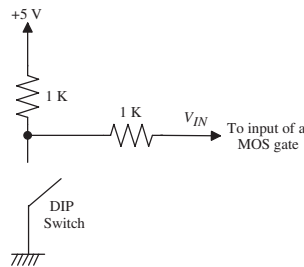

FIGURE 1.18 A typical switch for MOS input.
**A Typical Switch Input Circuit for MOS Chips** Figure 1.18 shows a switch circuit that can be used as a single bit into the input of a MOS gate. When the DIP switch is open,  $V_{IN}$  is HIGH. On the other hand, when the switch is closed,  $V_{IN}$  is LOW.  $V_{IN}$  can be used as an input bit for performing laboratory experiments. Note that unlike TTL, a 1K resistor is connected between the switch and the input of the MOS gate. This provides for protection against static discharge. This 1-Kohm resistor is not required if the MOS chip contains internal circuitry providing protection against damage to inputs due to static discharge.